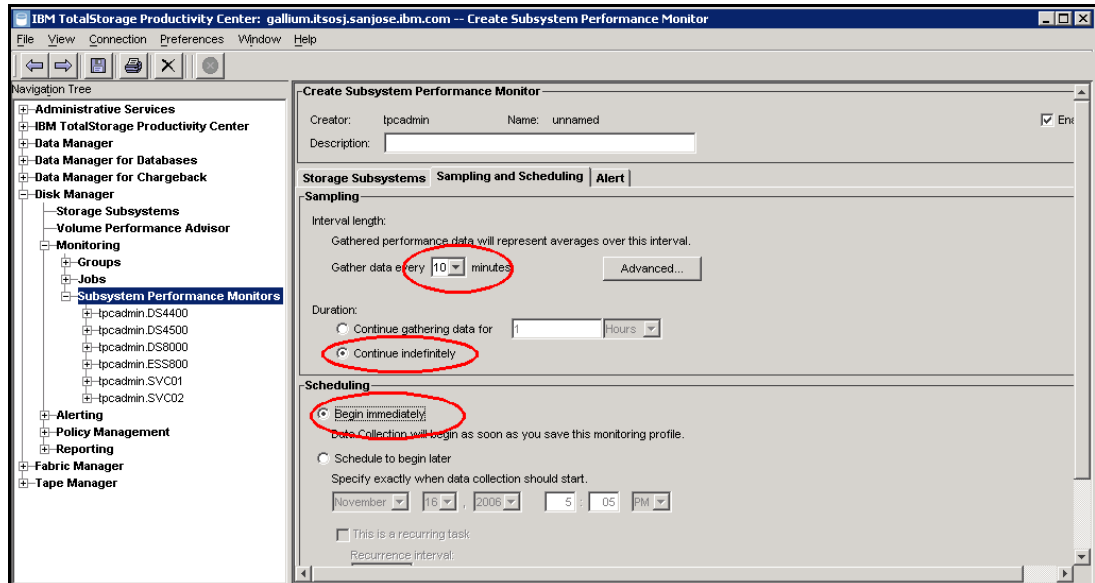

Figure 7-24 Sampling and scheduling
2. Select the **Sampling and Scheduling** tab to configure the interval length, duration, and scheduling of the Performance Monitor job to be submitted, as shown in Figure 7-24.